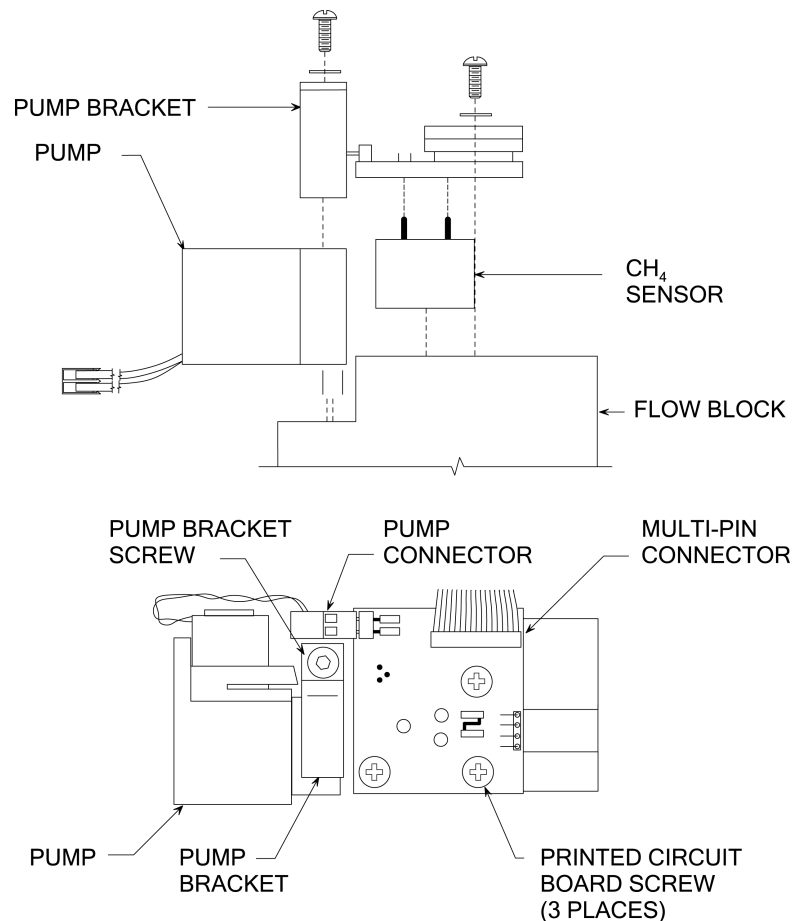

Figure 4-6. Sensor or Pump Replacement
2. Remove the pump connector and multi-pin connector from printed circuit board, noting orientation of connectors. See Figure 4-6.
5. Reinstall printed circuit board into flow block, taking care to properly position the board as shown in Figure 4-6.
2. Back off the pump-bracket screw using a $\frac{5}{64}$ " Allen wrench; then rotate bracket arm to free pump. See Figure 4-6.